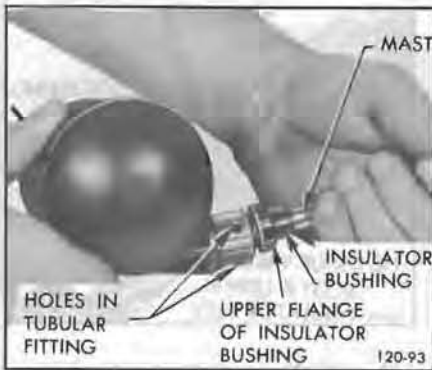

Figure 129-17—Removing or Installing Mast and Insulator Bushing
7. While still holding antenna drive in one hand, now grasp the mast with the other hand and pull with a rocking motion until the insulator bushing and mast are free from the tubular fitting of antenna drive (see Figure 129-17).
4. Push 0.40 inch diameter section of mast and insulator bushing into tubular fitting (see Figure 129-17). Make sure that the upper edge of insulator bushing flange is below the 3 holes in the tubular fitting of antenna drive.